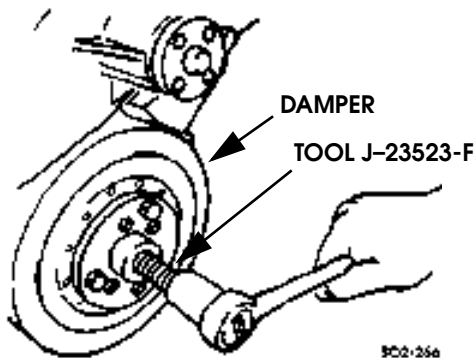

Figure 2-63: Torsional Damper Removal
7. Loosen torsional damper with tool J-23523-F (Figure 2-63).